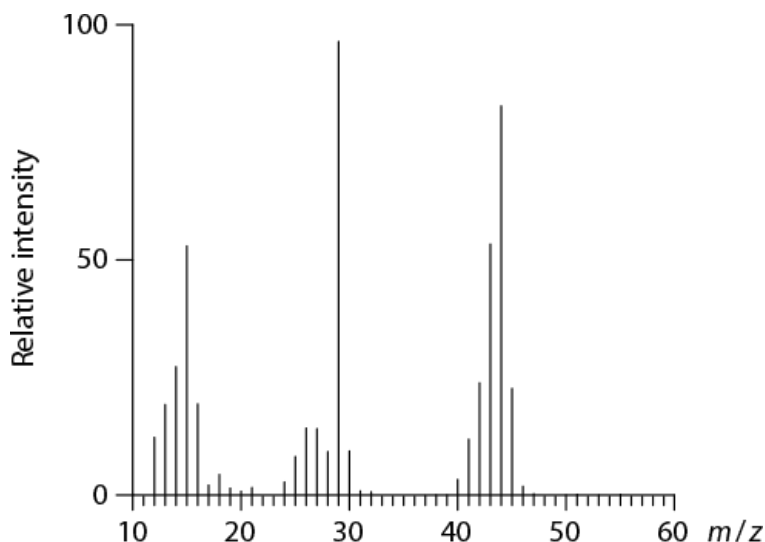
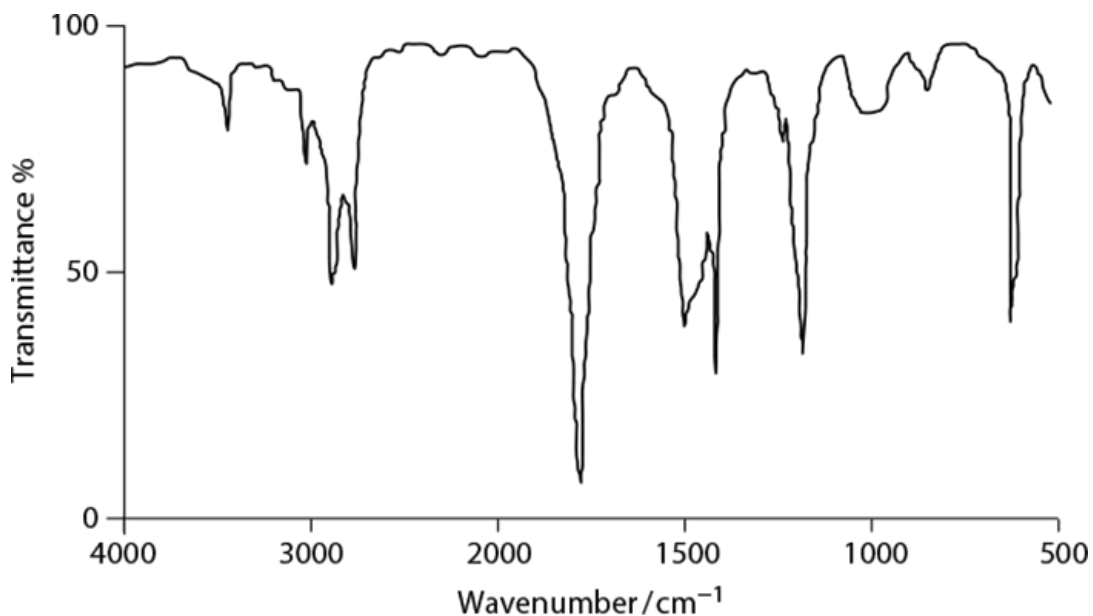

Figure 17.4: Mass spectrum of compound **R**
Figure 17.5: Infrared spectrum of compound **R**
- **R** reacts with an alkaline solution of copper(II) ions when warmed to form an orange-red precipitate.
- The mass spectrum (Figure 17.4) and infrared spectrum (Figure 17.5) of **R** are shown.
e Use the information in Figure 17.4 to deduce the relative molecular mass of **R**.